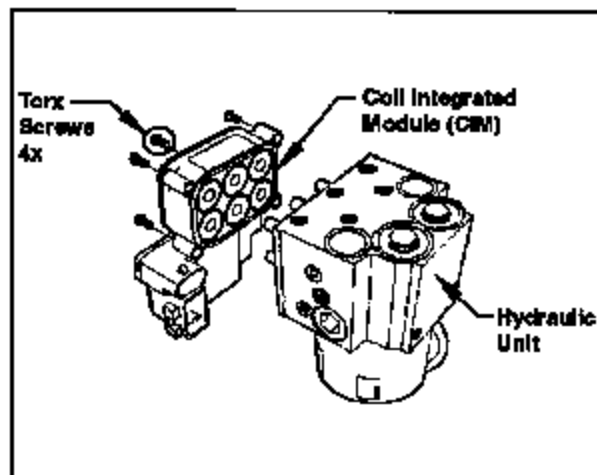

Figure 2
4. Separate the Coil Integrated Module (CIM) from the Hydraulic Unit by removing the Torx screws (see figure 2). **NOTE:** To avoid damaging the Torx screws please remove screws gently.